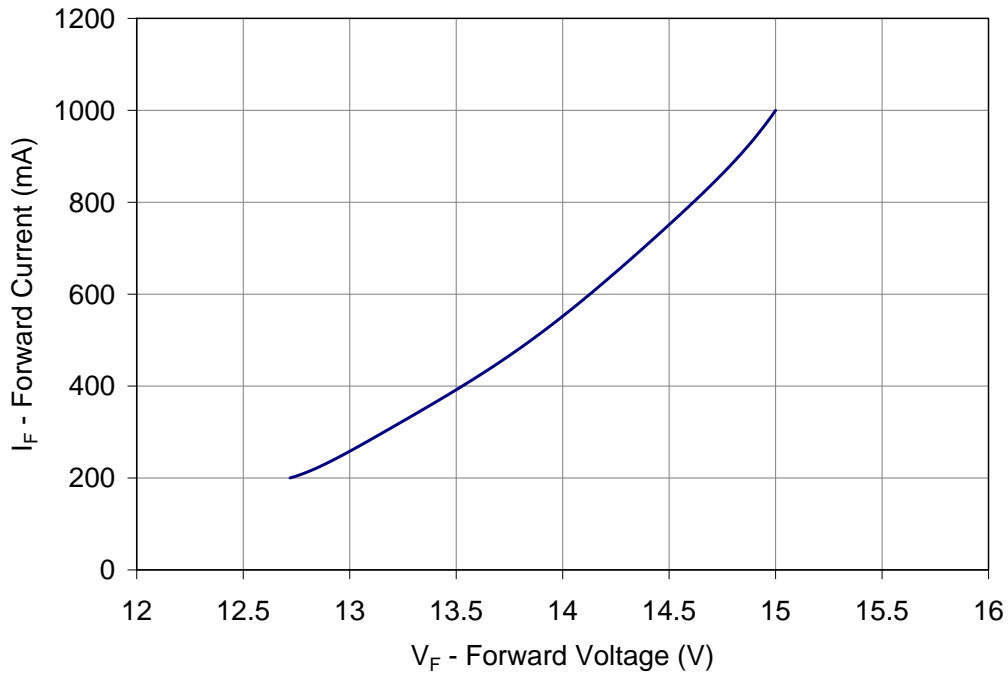

Figure 6: Typical forward current vs. forward voltage @ T_c = at 25°C.
3. Refer to Figure 6 for typical dominant wavelength shift over forward current.
- Refer to Figure 6 for typical dominant wavelength shift over forward current.
Note for Figure 6: